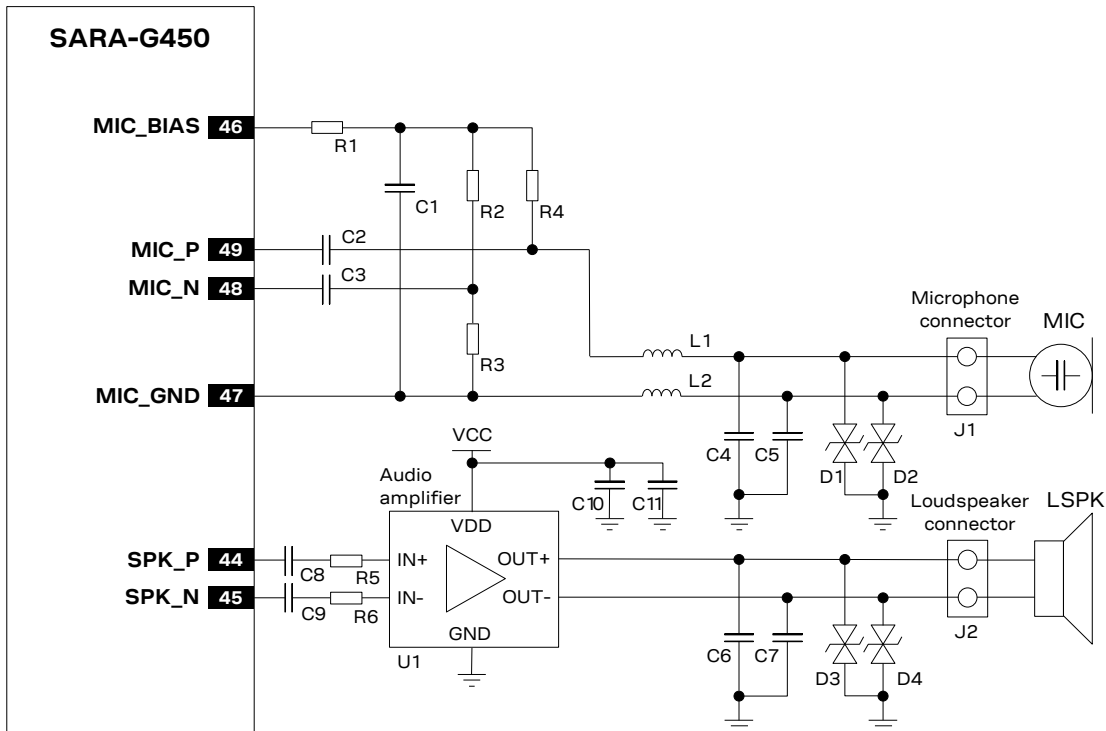

Figure 70: Analog audio interface application circuit
Figure 70 shows an application circuit for the analog audio interface, connecting a 2.2 k Ω electret microphone and an 8 Ω or 4 Ω loudspeaker:
As in the example circuit in Figure 70, follow the general guidelines for the design of an analog audio circuit:
- Provide an appropriate series capacitor at both **MIC_P** and **MIC_N** analog uplink inputs for DC blocking (as the C2 and C3 100 nF Murata GRM155R71C104K capacitors in Figure 70). This provides a high-pass filter for the microphone DC bias with a corresponding cut-off frequency according to the value of the resistors of the microphone supply circuit. Then connect the signal lines to the microphone.
- Mount an 82 nH series inductor with a Self-Resonance Frequency \sim 1 GHz (e.g. the Murata LQG15HS82NJ02) on each microphone line (L1 and L2 inductors in Figure 70).
- Mount a 27 pF bypass capacitor (e.g. Murata GRM1555C1H270J) from each microphone line to solid ground plane (C4 and C5 capacitors in Figure 70).
- Provide a 47 nF series capacitor at both **SPK_P** and **SPK_N** analog downlink outputs for DC blocking (C8 and C9 Murata GRM155R71C473K capacitors in Figure 70). Then connect the lines to the differential input of an appropriate external audio amplifier, differential output which must be connected to the 8 Ω or 4 Ω loudspeaker (see the Analog Devices SSM2305CPZ filter-less mono 2.8 W class-D audio amplifier in the circuit described in Figure 70).
- Mount a 27 pF bypass capacitor (e.g. Murata GRM1555C1H270J) from each loudspeaker line to solid ground plane (C6 and C7 capacitors in Figure 70).
- Provide additional ESD protection (e.g. Bourns CG0402MLE-18G varistor) if the analog audio lines will be externally accessible on the application device, according to EMC/ESD requirements of the custom application. The protection should be mounted close to accessible point of the line (D1-D4 parts in the circuit described in Figure 70).